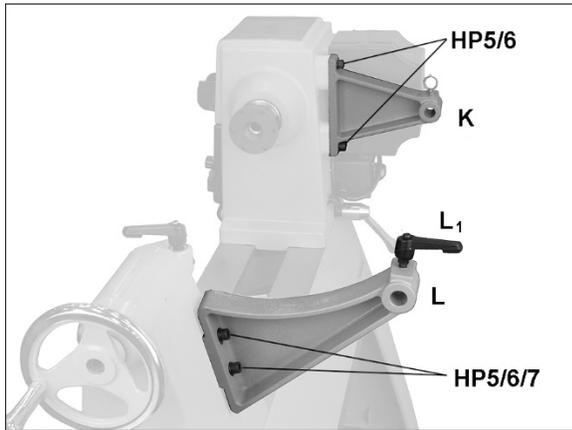

Figure 6-3: installing brackets
1. Install guard bracket (K, Figure 6-3) to headstock.
2. Install comparator bracket (I, Figure 6-3) to tailstock with fasteners. The bracket holes are slotted for alignment with guard bracket.
3. Install locking handle (L₁, Figure 6-3).